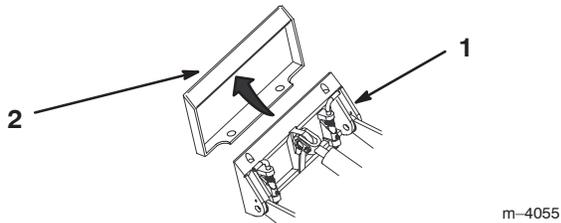

Figure 13
4. Position mount plate into the upper lip of the attachment receiver plate (Fig. 13).